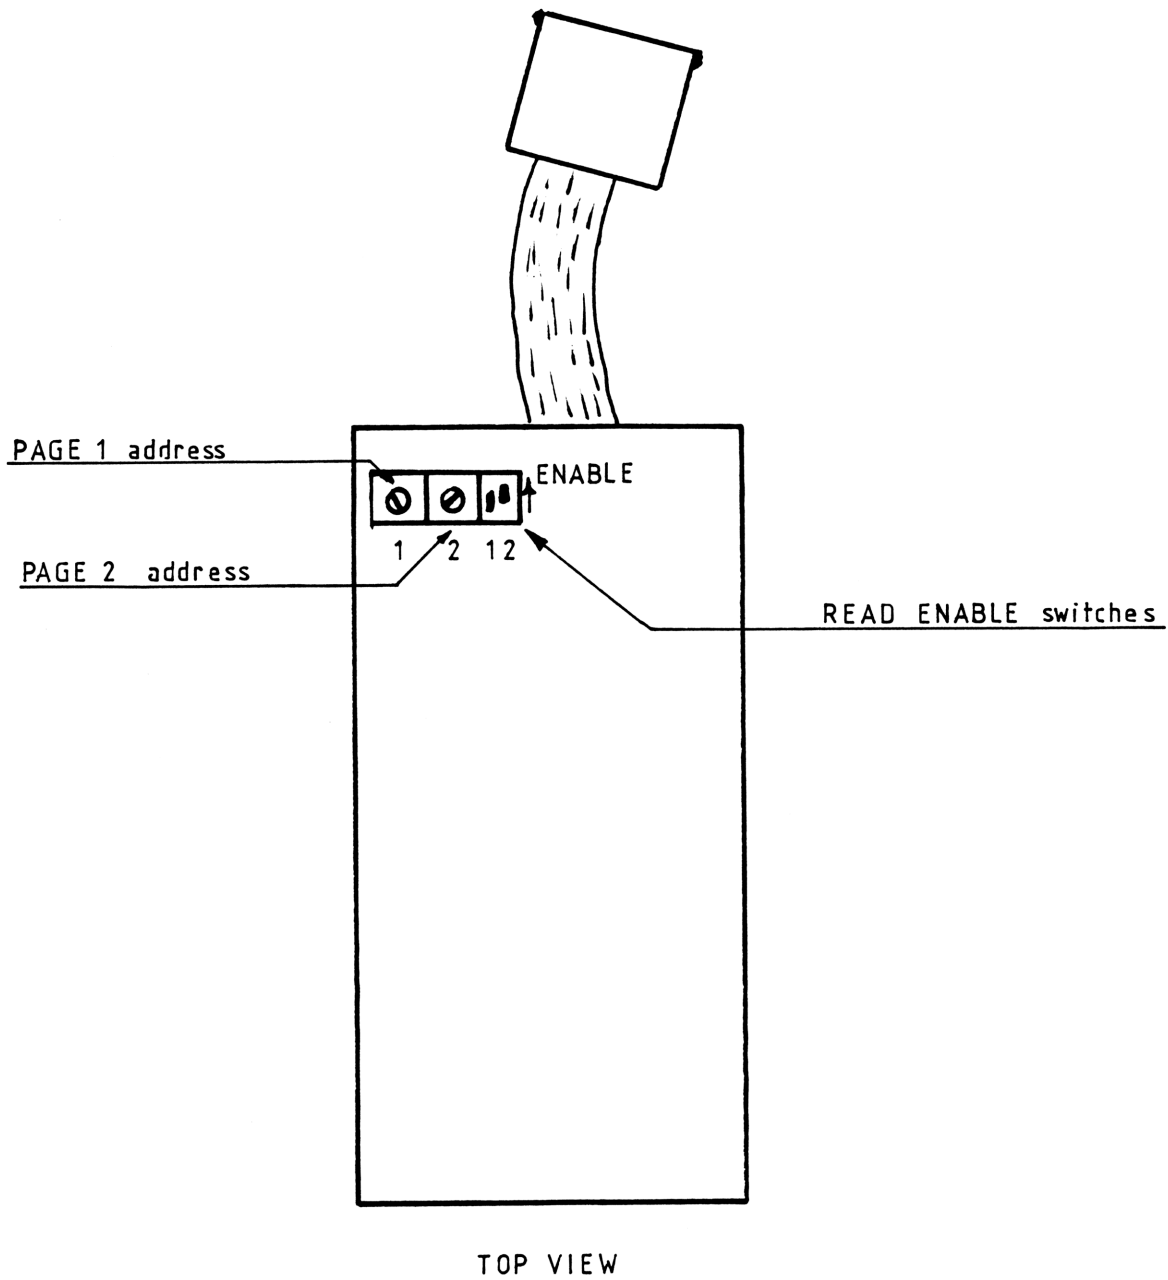

Fig. 1.3
Turning your MLDL - Box around you will see the Eprom addressing switches and their enabling switches. Eprom stands for Erasable Read Only Memory i.e. the part of the MLDL-Box into which you can write your own data using the special MLDL-ROM instructions. To the calculator these pages have the appearance of a plug-in module (ROM). The rotary switch selects the page at which your Eprom is placed, the enabling switch permits you to use this page i.e. to read the contents of this page. Remember, the enabling switch is a read enable switch, writing into this page will not be inhibited by disabling the page! As pages 0, 1, 2 and 4 are used for the HP-41 C(V) operating system it is recommended not to place the switches in the position corresponding to these addresses. As no two pages can occupy the same page a preference scheme also applies to the two Eprom pages. Eprom (1) (the left page and enabling switch) will be disabled automatically if Eprom (2) (the right page and enabling switch) is placed on the same page as Eprom (1). (See fig 1.3). Make sure that the pages of Eprom contain valid data, especially the last 16 Eprom words, before switching on-line any Eprom page. Use CLBL or switch the page to address 3 and use RAMWR.